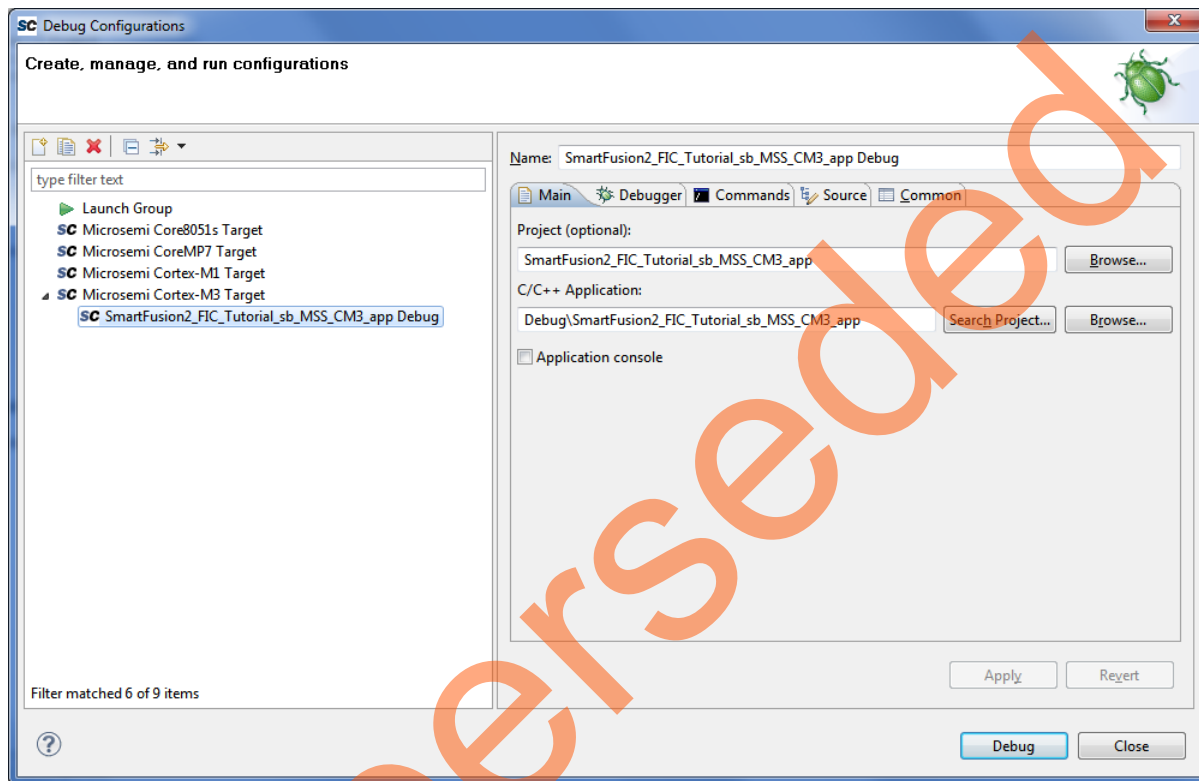

Figure 51 • Debug Window
3. Double-click on **Microsemi Cortex-M3 Target** to display an image similar to Figure 51.